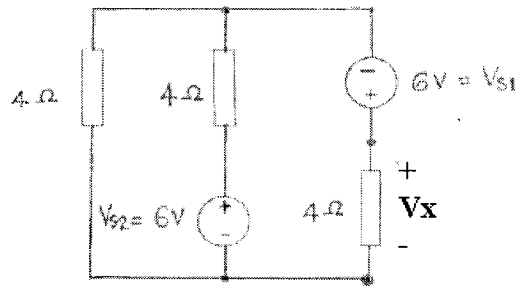

FIG Q3
3. Use the principle of superposition to find V_x in Figure Q3. [20 marks]
3. In the circuit of Figure Q3. find: